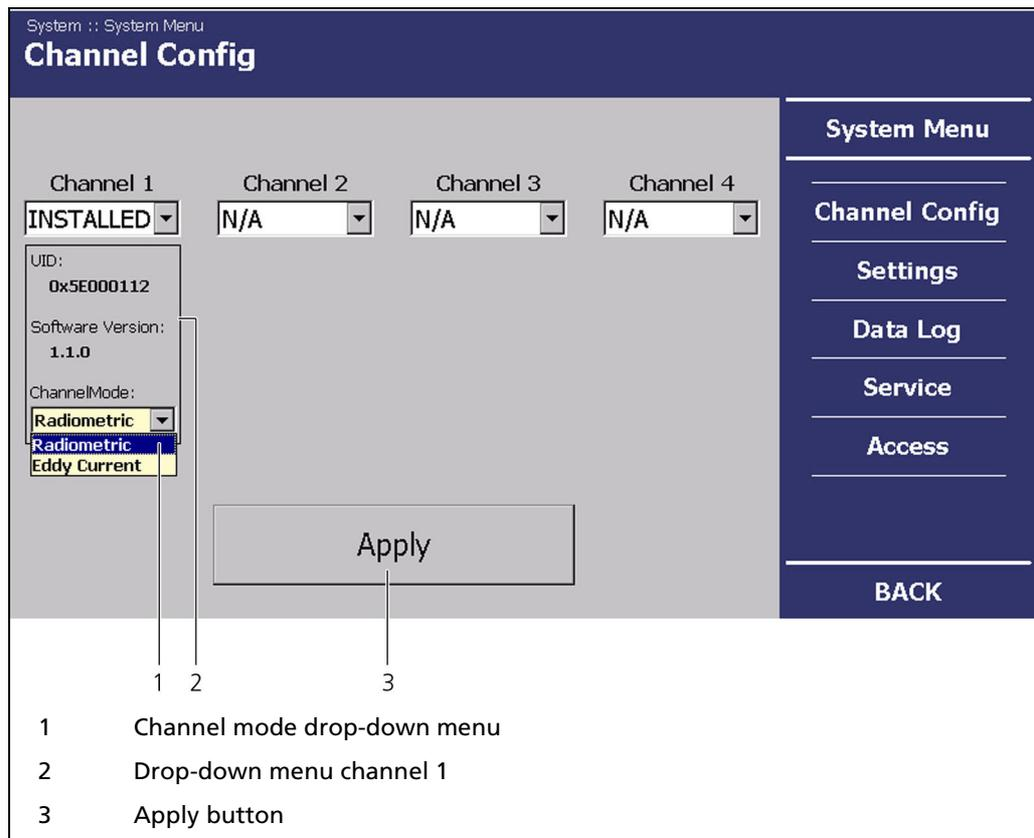

Fig. 15 System menu, channel settings
1. In the **standard display** (see operating manual "47344BA2", Fig. 15, pos. 6), click on **System | System Menu | Channel Configuration**, in order to access the "Channel Setting" submenu.
- In the **<Channel Setting>** menu in the drop-down menu, set the "Channel Mode" (the measurement technique) to "Radiometric" (Fig. 15, pos. 1).
2. In the drop-down menu below "Channel XY" (Fig. 15, pos. 2), select **<INSTALLED>**.
3. In the drop-down menu below "Channel Mode" (Fig. 15, pos. 1), select **"Radiometric"** as measurement method.
4. Click on **<Apply>** (Fig. 15, pos. 3).